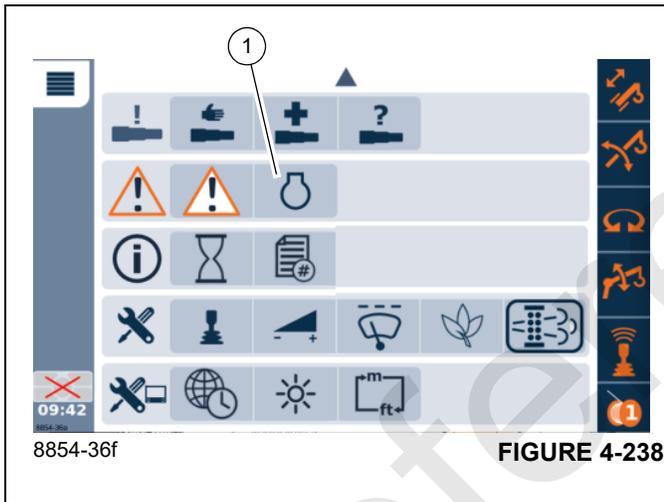

FIGURE 4-238
Select the Engine Faults Icon (1), (Figure 4-238) under the Faults Menu Group to view active engine fault codes.